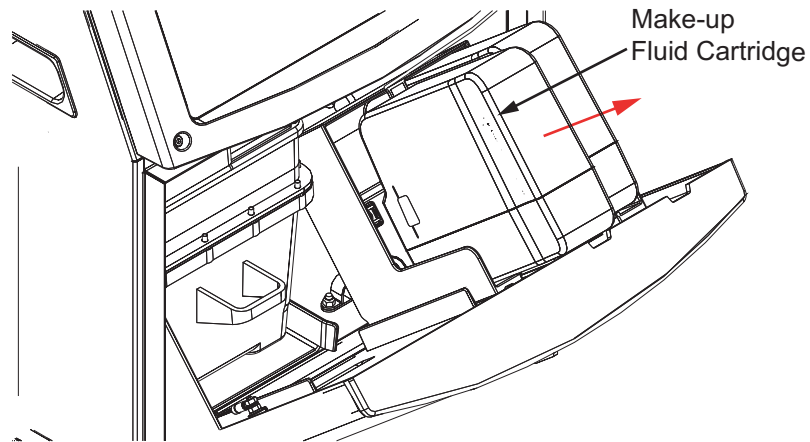

Figure 4-50: Cartridge Removal
- 3 Remove the make-up fluid cartridge (see Figure 4-50).